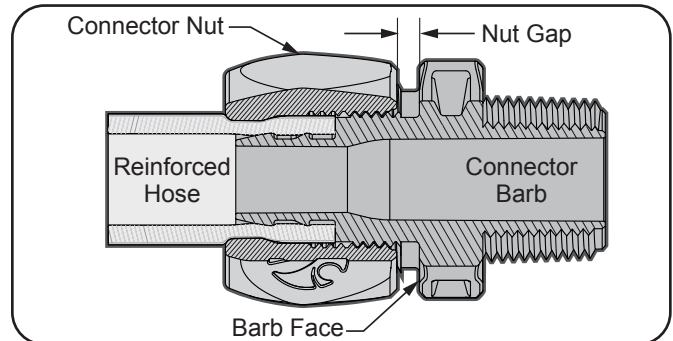

Figure 8. Quick Connect Fitting
- Slide the hose over the barbs until a snug fit is achieved. See Figure 8.